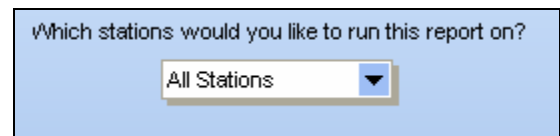

Figure 21.0.6
1. Next click on the "Which stations would you like to run this report on?" box (Figure 21.0.6).